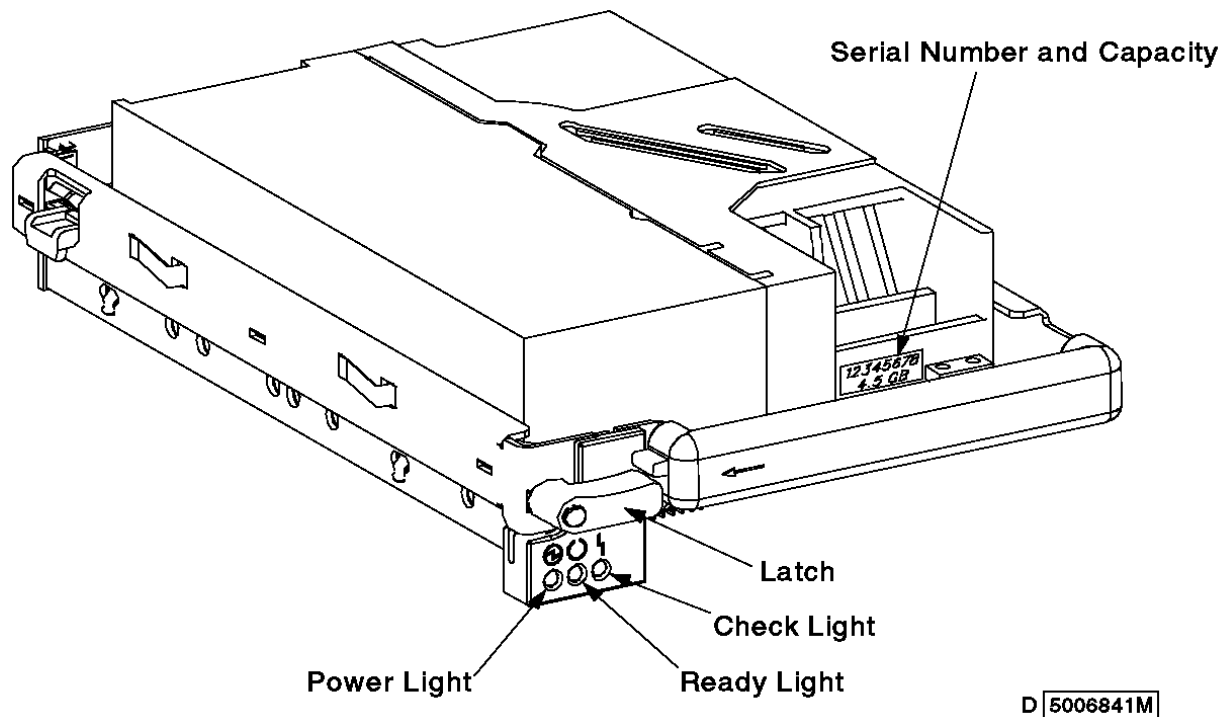

Figure 22. Disk Drive Module Check Light
5. Verify that the check light on the disk drive module is on steady (Figure 22), which indicates that the device has been removed from host system configuration and set to service mode.
12. If the check light on the disk drive module is on steady (Figure 22 in topic 6.5), the disk drive module is in service mode. Take the disk drive module out of service mode (reset the service mode) following the procedures in "Changing Failed Disk Drives" in topic 5.4.